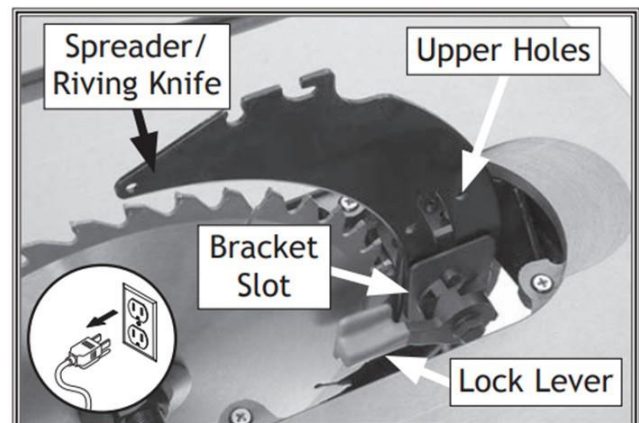

Figure 43: Position of the lock lever to secure the spreader.
- 4 - Insert the upper holes on the riving knife into the bracket's slot and secure it in place by tightening the lock lever, see figure 43.